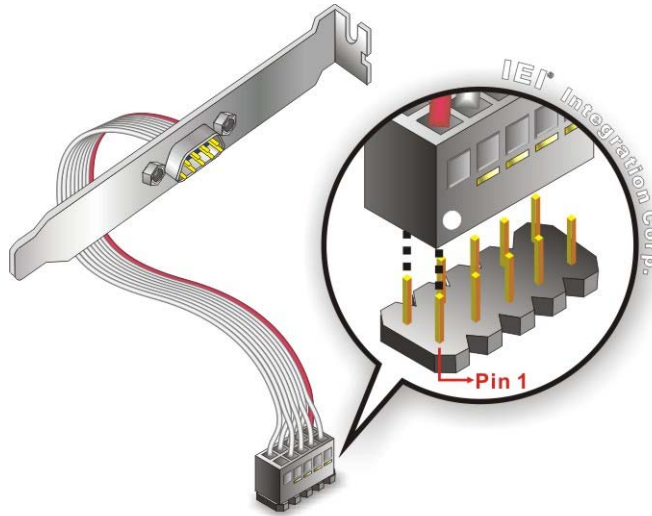

Figure 4-13: Single RS-232 Cable Installation
**Step 2:** Insert the cable connector. Align pin 1 on the on-board serial port pin header with pin 1 on the serial port connector. Pin 1 on the serial port connector is indicated with a white dot. Insert the connector into the serial port pin header. See **Figure 4-13**.